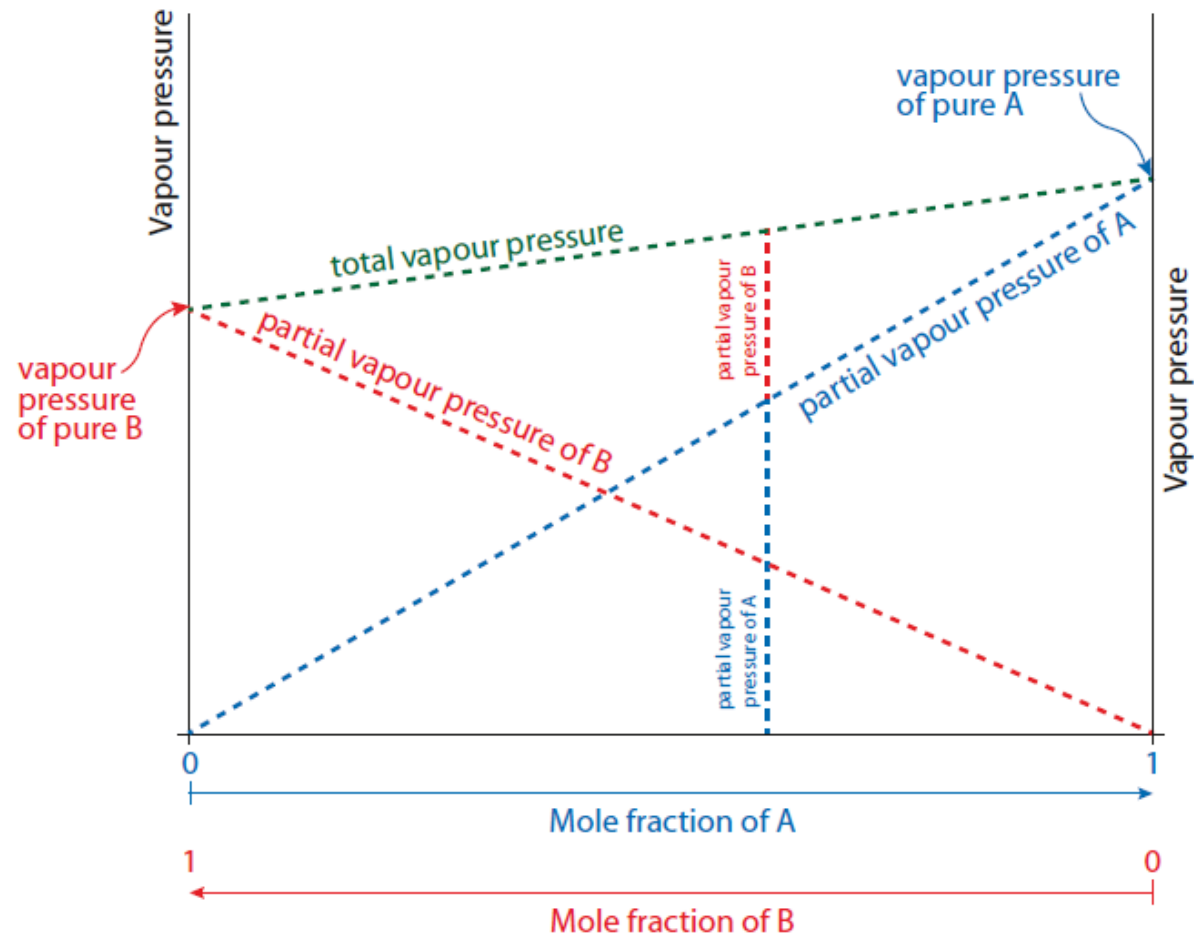

Figure D.46 The variation of vapour pressure with composition for an ideal solution.
Figure D.46 shows how the vapour pressure of an ideal mixture varies with the composition of the mixture at constant temperature. At any point, the total vapour pressure is the sum of the partial vapour pressures of the components.
- A is the more volatile component (higher vapour pressure in Figure D.46) and has the lower boiling point.